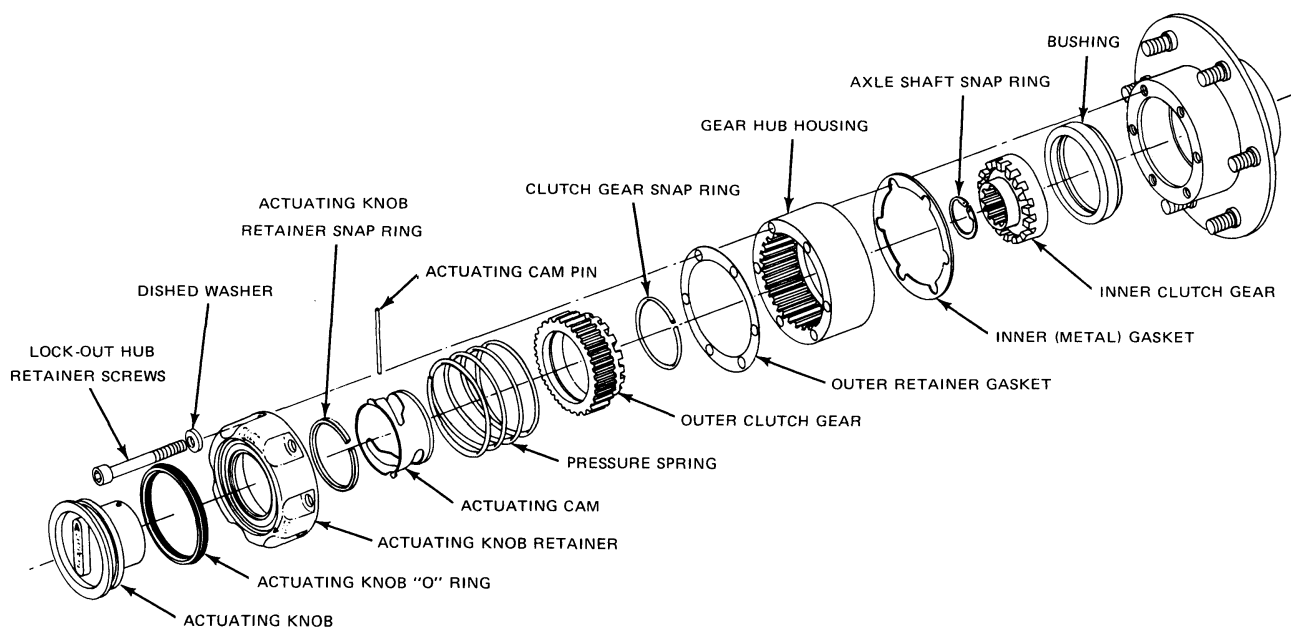

FIG. 15 Free-Running Hub—External-Type (F-250—3500 lb. Axles)
1. Remove the free-running hub screws and washers (Fig. 15).